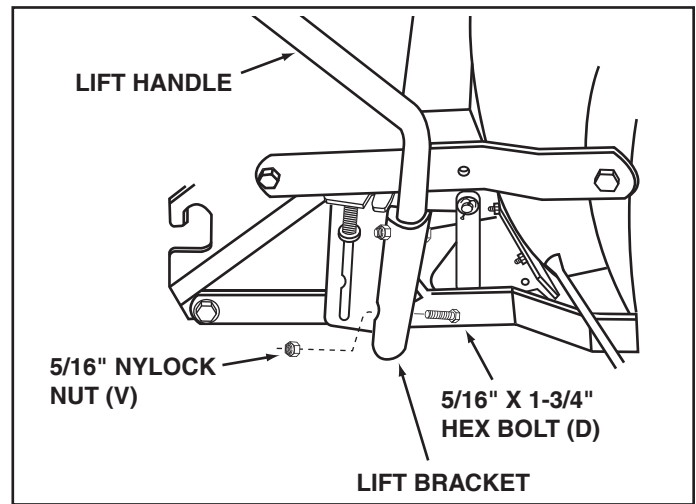

FIGURE 26
STEP 25: (SEE FIGURE 26)
- Attach the lower lift handle to the right side of the frame assembly using two 5/16" x 1-3/4" hex bolts (D) and 5/16" nylock nuts (V).